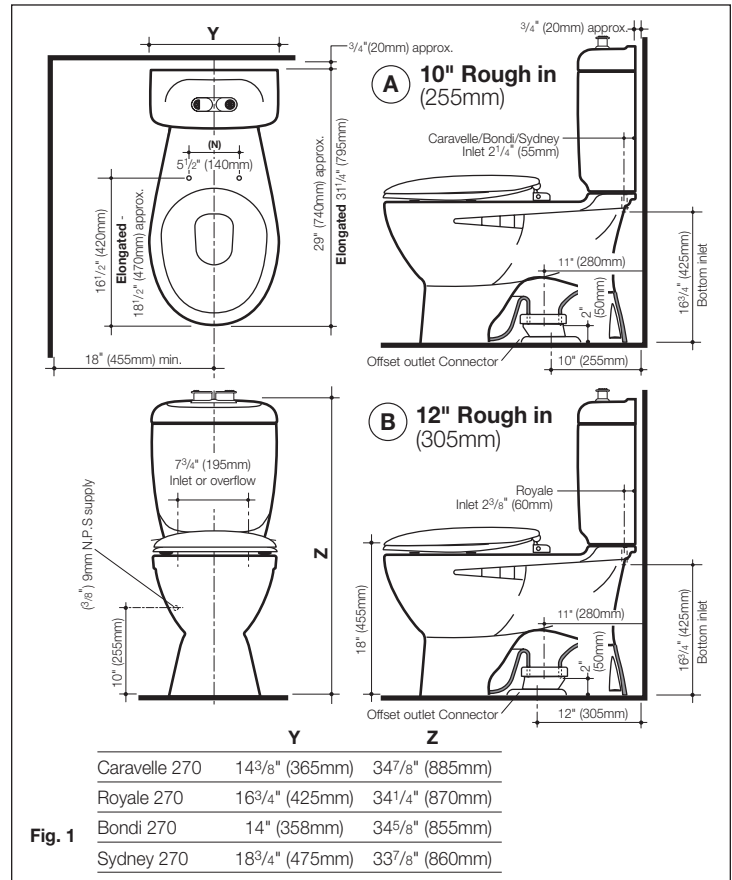
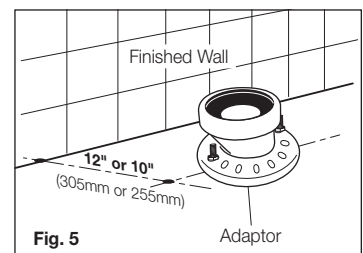

Fig. 1
Fig. 5
- 3- Position offset adaptor onto 'T' bolts and secure onto wax seal with nuts as detailed in **Fig. 5**, ensuring that the offset adaptor is positioned for 10" (255mm) rough in, as detailed in **Fig. 1-A** or for 12" (305mm) rough in, as detailed in **Fig. 1-B**.